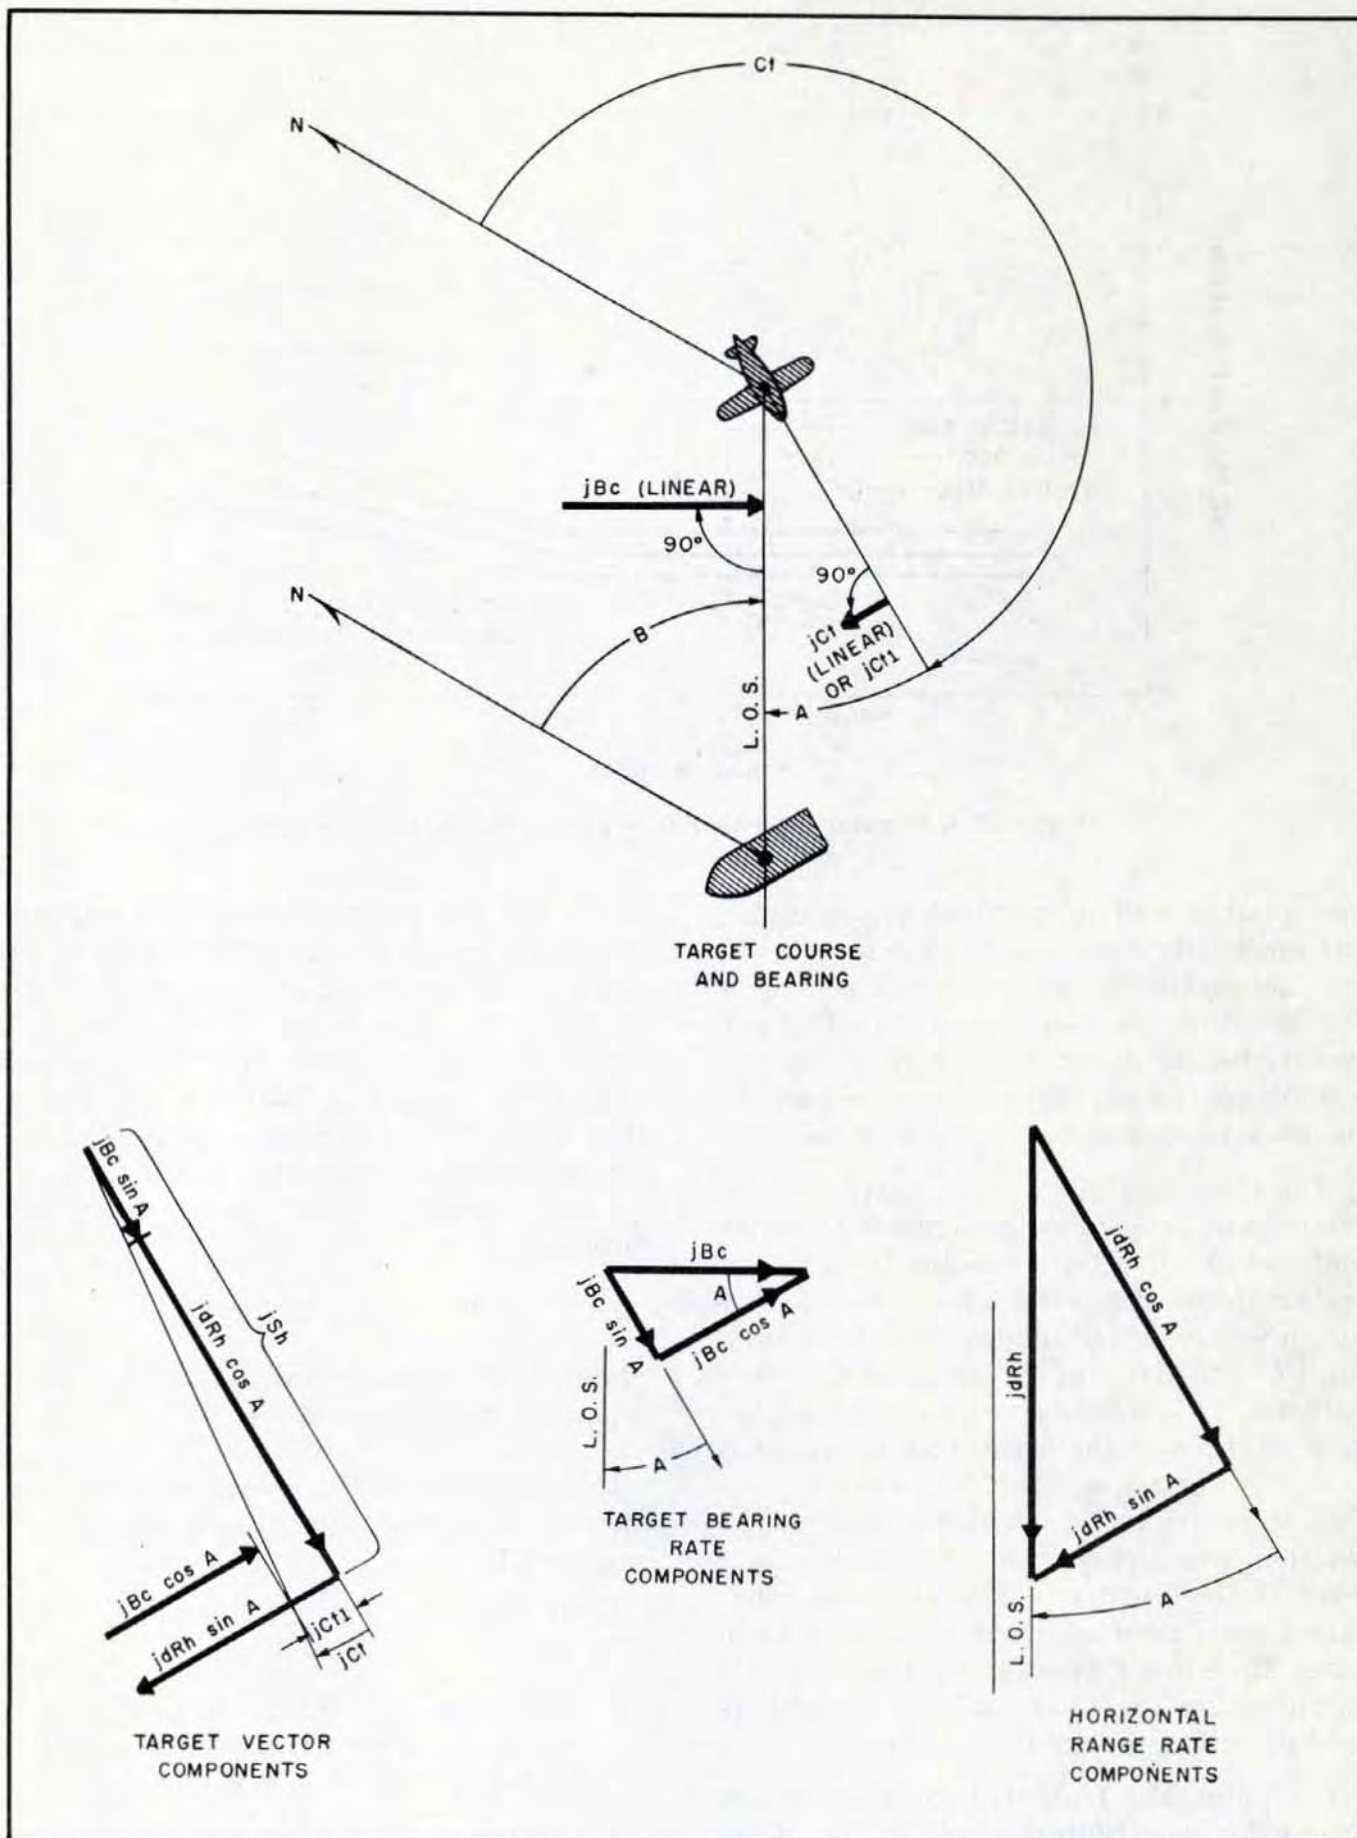

Figure 11. Vector Diagrams.
In Computer Mk 1A bearing rate correction (jBc) and horizontal range rate correction ($jdrh$) are resolved into horizontal components taken with respect to the vertical plane through the target path (see figure 11), rather than with respect to a North-South line as in Computer Mk 1. Therefore, target angle (A) instead of target bearing (B) is used as an input to the target angle component integrators. The outputs from this component integrator group are jSh , the correction to target speed, and $jCt1$, the linear correction to the direction of target motion. Because these outputs are taken with respect to the line of target motion, the cumbersome vector solver used in Computer Mk 1 can be eliminated. One output, jSh , is applied to horizontal target speed (Sh) at the Sh follow-up. The other output, $jCt1$, is converted to the angular quantity jCt in the instrument gearing and applied to target angle (A).
Application of the linear correction $jCt1$ to the angular quantity A is as follows: It will be noted that changes in Ct are accompanied by corresponding changes in A . From figure 11 it is seen that the increment of change of target course (jCt) can be expressed by the equation: